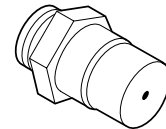

Figure 67
Step 8. Remove the burner orifice from the manifold and replace it with the one provided with the kit. See the following table for orifice sizes for natural and propane models. *Figure 67* illustrated the orifice.